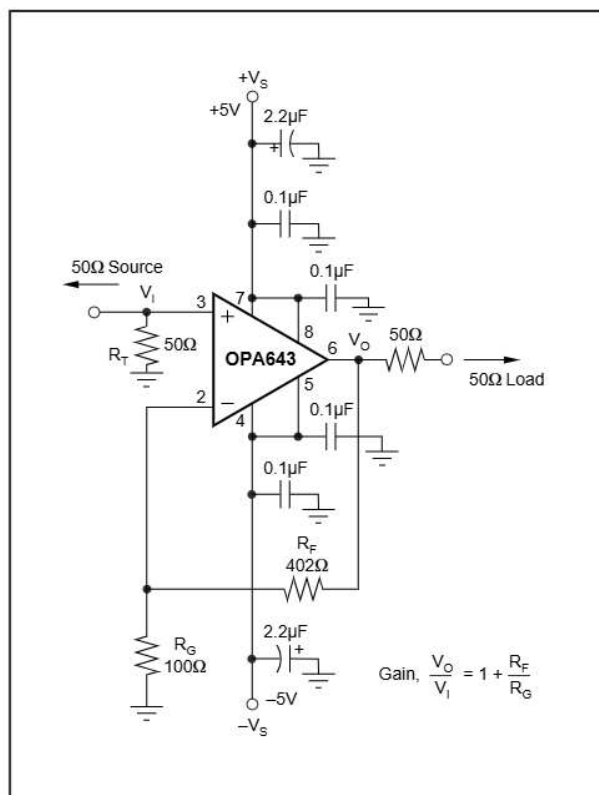

FIGURE 1. Gain of +5, High Frequency Application and Characterization Circuit (P or U Package).
The OPA643's combination of speed and dynamic range is easily achieved in a wide variety of application circuits, providing that simple guidelines common to all high speed amplifiers are observed. For example, good power supply decoupling, as shown in Figure 1, is essential to achieve the lowest possible harmonic distortion and smooth frequency response. Careful PC board layout and component selection will maximize the performance of the OPA643 in all applications, as discussed in the remaining sections of this data sheet.
Figure 1 shows the gain of +5 configuration used as the basis for most of the Typical Performance Curves. Most of the curves were characterized using signal sources with 50Ω driving impedance, and with measurement equipment presenting 50Ω load impedance. In Figure 1, the 50Ω shunt resistor at the  $V_I$  terminal matches the source impedance of the test generator, while the 50Ω series resistor at the  $V_O$  terminal provides a matching resistor for the measurement equipment load. Generally, data sheet specifications refer to the voltage swing at the output pin ( $V_O$  in Figure 1). The total 100Ω load from the series and shunt matching resistors, combined with the 502Ω total feedback network load, presents the OPA643 with an effective output load of approximately 83Ω.
To deliver the lowest possible distortion using the 8-pin SO-8 or DIP package, additional 0.1μF power supply decoupling capacitors on pins 5 and 8 are required. These are shown in Figure 1. Although pins 5 and 8 are internally connected to pins 4 and 7 respectively (the standard supply pins for 8-pin op amps), the additional capacitors help to decouple the package lead inductances and decrease the second-harmonic distortion for a 5MHz fundamental by approximately 4dB. The much shorter bond wires and supply leads of the SOT23-5 package give the best distortion performance while requiring only two power supply connections.
Since the OPA643 is a voltage feedback op amp, a wide range of resistor values may be used for the feedback and gain setting resistors ( $R_F$  and  $R_G$  in Figure 1). The primary limits to these values are set by dynamic range (noise and distortion) and parasitic capacitive considerations. Usually, the feedback resistor value should be between 200Ω and 1kΩ. Below 200Ω, the feedback network will present additional output loading which can degrade the harmonic distortion performance of the OPA643. Above 1kΩ, the typical parasitic capacitance (approximately 0.2pF) across the feedback resistor may cause unintentional band-limiting in the amplifier response.
A good rule of thumb is to target the parallel combination of  $R_F$  and  $R_G$  (Figure 1) to be less than about 200Ω. The combined impedance  $R_F || R_G$  interacts with the inverting input capacitance, placing an additional pole in the feedback network and thus a zero in the forward response. Assuming a 3pF total parasitic on the inverting node, holding  $R_F || R_G < 200\Omega$  will keep this pole above 250MHz. By itself, this constraint implies that the feedback resistor  $R_F$  can increase to several kΩ at high gains. This is acceptable as long as the pole formed by  $R_F$  and any parasitic capacitance appearing in parallel with it is kept out of the frequency range of interest. The exception to this is in wideband transimpedance applications as described earlier. There, a feedback pole is used to compensate for the zero formed by the input capacitance and the feedback resistor.
Generally, until the fundamental signal reaches very high frequencies or powers, the second harmonic will dominate the distortion with negligible third harmonic component. Focusing then on the second harmonic, increasing the load impedance improves distortion directly. Remember that the total load includes the feedback network—in the non-inverting configuration this is sum of  $R_F + R_G$ , while in the inverting configuration it is only  $R_F$  (Figure 1). Larger output voltage swings lead directly to increased harmonic distortion. A 6dB increase in output voltage swing will generally increase the second harmonic by 12dB and the third harmonic by 18dB. Higher signal gain settings will also increase the second harmonic distortion. A 6dB increase in voltage gain will raise the second and third harmonics by
Evaluating these two equations for the OPA643 component values shown in Figure 1 will give a total output spot noise voltage of  $13.3\text{nV}/\sqrt{\text{Hz}}$  and a total equivalent input spot noise voltage of  $2.7\text{nV}/\sqrt{\text{Hz}}$ .
Narrowband communications systems are more commonly concerned with the Noise Figure (NF) for the amplifier. The total input referred voltage noise expression (Equation 2 above), may be used to calculate the noise figure. Equation 3 shows the noise figure expression using the  $E_N$  of Equation 2 for the non-inverting configuration where the input termination resistor  $R_T$  has been set to match the  $50\Omega$  source impedance (as shown in Figure 1).
Evaluating Equation 3 for the circuit of Figure 1 gives a Noise Figure = 15.9dB. Input transformer coupling can be used to reduce this noise figure. A broadband pulse transformer can provide both a noiseless voltage gain and a more optimum source impedance to minimize the noise figure. Figure 9 shows an example built from the circuit of Figure 1, in which the transformer turns ratio has been set to the closest integer for minimum noise figure. This optimum turns ratio is calculated by:
The OPA643 provides excellent DC signal accuracy due to the combination of high open-loop gain, high common-mode rejection, high power supply rejection, low input offset voltage and low bias current offset errors. The high grade (B) version of any package type provides less than 1.5mV input offset voltage. To take full advantage of this low input offset voltage, careful attention to input bias current cancellation is also required. The high speed input stage for the OPA643 has a relatively high input bias current (19μA typical into each input pin) but with a very close match between the two input currents—typically 100nA input offset current. The total output offset voltage may be considerably reduced by matching the source resistances which appear at the two inputs. For example, one way to include bias current cancellation in the circuit of Figure 1 would be to insert a 55Ω series resistor into the non-inverting input after the 50Ω terminating resistor,  $R_T$ . When the 50Ω source resistor is DC coupled, this will increase the source resistance for the non-inverting input bias current to 80Ω. Since this is now equal to the resistance appearing at inverting input ( $R_F \parallel R_G$ ), the circuit will cancel the gains for the bias currents to the output, leaving only the offset current times the feedback resistor as a residual DC error term at the output. Using a 402Ω feedback resistor, this output error will now be less than  $3\mu\text{A} \cdot 402\Omega = 1.2\text{mV}$  over the full temperature range.
As a worst case example, compute the maximum  $T_J$  using an OPA643N (SOT23-5 package) in the circuit of Figure 1 operating at the maximum specified ambient temperature of  $+85^\circ\text{C}$ .  $P_D = 10\text{V} \cdot 26\text{mA} + 5^2 / (4 \cdot (100\Omega \parallel 502\Omega)) = 335\text{mW}$ . Maximum  $T_J = +85^\circ\text{C} + (0.335\text{W} \cdot 150^\circ\text{C/W}) = 135^\circ\text{C}$ .